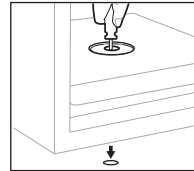

Figure 3
4. Tilt the safe backward and using a pencil or screwdriver, insert it into the mounting hole and punch out the hole plug at the bottom of the safe. (Figure 3)